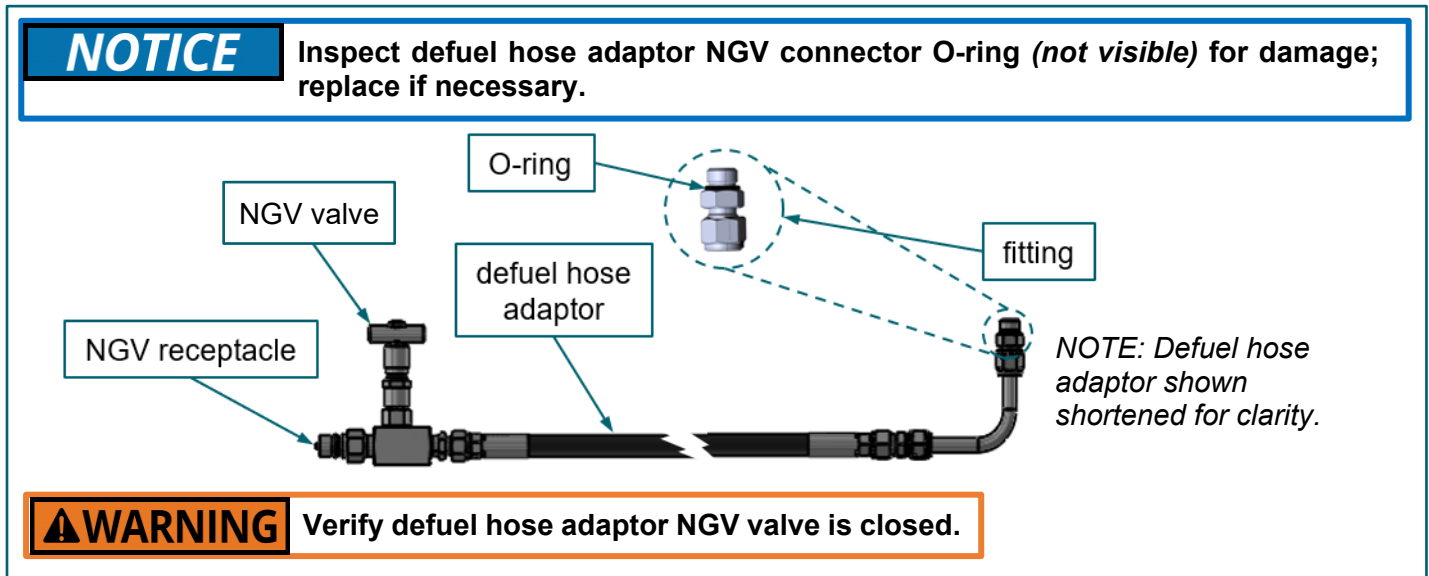

FIGURE 3–6. Defuel hose adaptor components
5. Remove fitting from defuel hose adaptor using a pair of 11/16-in wrenches. FIGURE 3–6